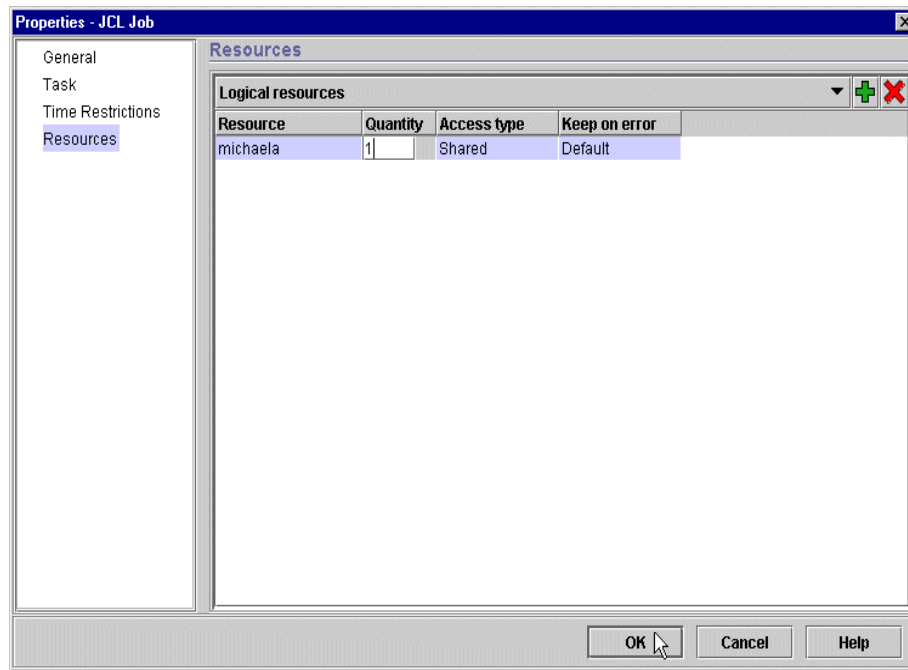

Figure 131. Defining Job Logical Resource Dependency Settings
6. Define that this job needs the logical resource that you previously created as shown in Figure 131 on page 217.